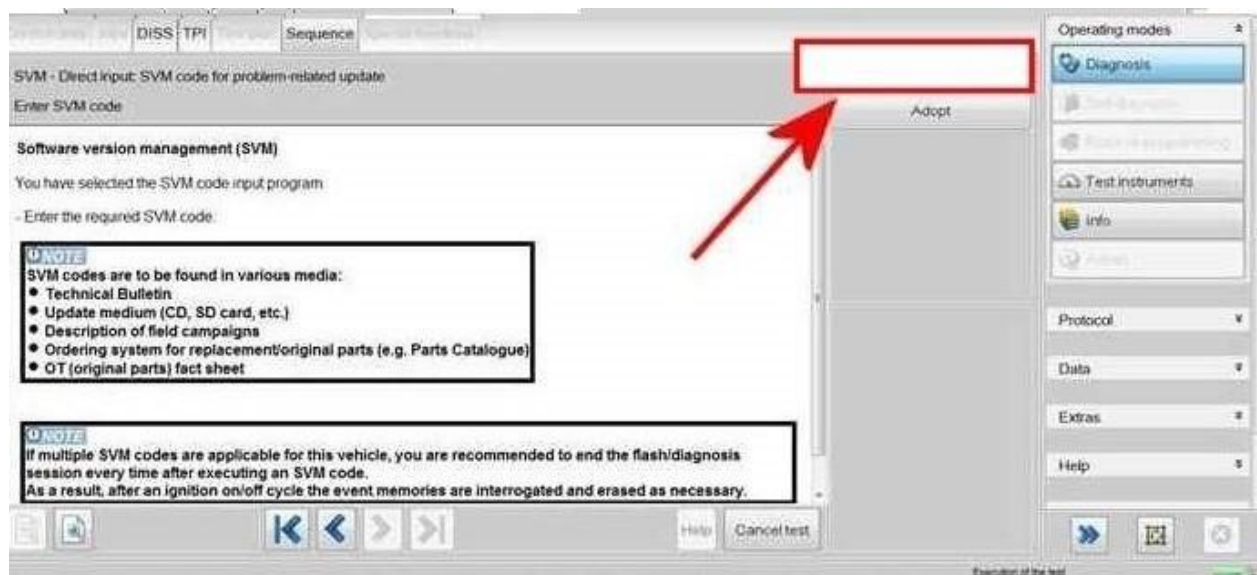

Figure 3
3) Referring to Figure 3 - Enter the SVM code **372WDD02**